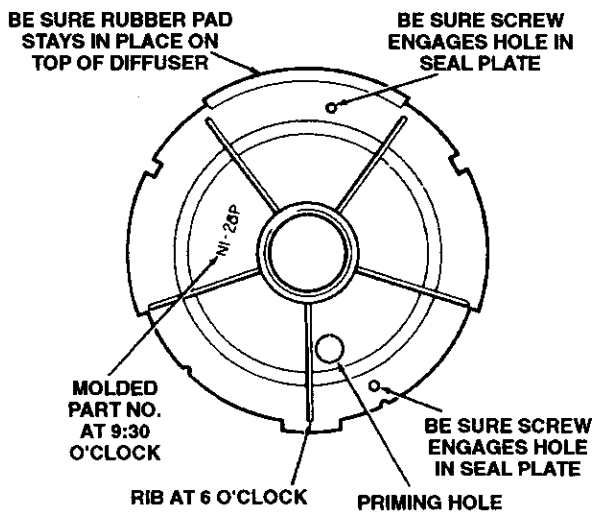

Figure 10
- J. Remount diffuser on seal plate. Be sure diffuser is right side up as follows (see Figures 10 and 11).
- Both mounting screws must engage screw holes in seal plate. See Figure 10.
- Be sure rubber pad (Figure 10; Key No. 8, Page 12) stays in place on top of diffuser.